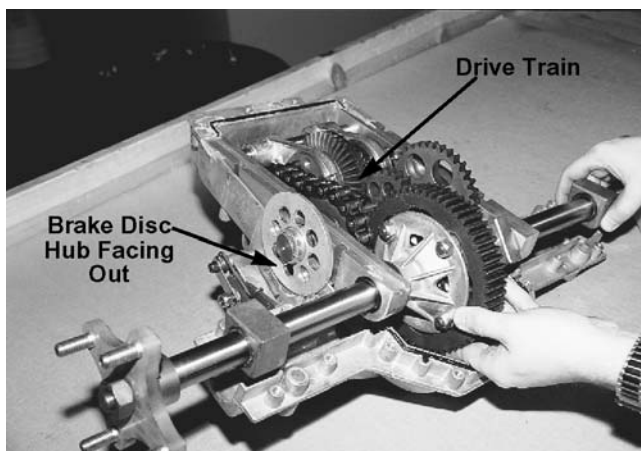

Figure 5-92.
53. Install the brake disc with the hub facing out. See Figure 5-92.
54. Set the entire drive train into the upper housing starting with the top portion. Line up all axle bearing blocks with the housing, align the brake disc with the brake pucks, using a screwdriver if necessary, and set the axle into the housing. See Figures 5-92 and 5-93.